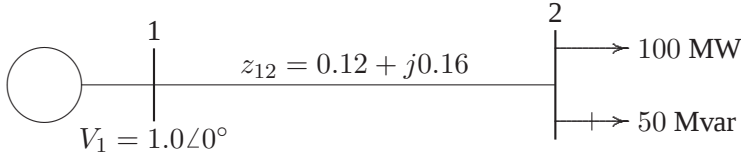

FIGURE 59
6.11. In the two-bus system shown in Figure 59, bus 1 is a slack bus with $V_1 = 1.0 \angle 0^\circ$ pu. A load of 100 MW and 50 Mvar is taken from bus 2. The line impedance is $z_{12} = 0.12 + j0.16$ pu on a base of 100 MVA. Using Newton-Raphson method, obtain the voltage magnitude and phase angle of bus 2. Start with an initial estimate of $|V_2|^{(0)} = 1.0$ pu and $\delta_2^{(0)} = 0^\circ$. Perform two iterations.